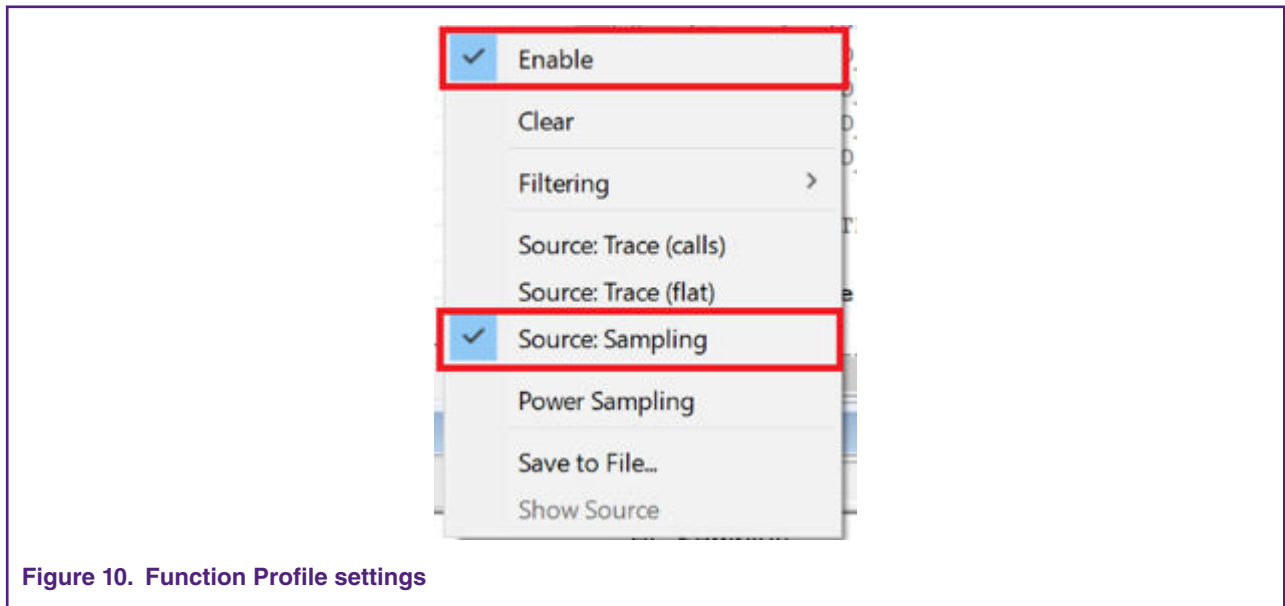

Figure 10. Function Profile settings
- 3. Right click **Function** and select **source:Sampling**, as shown in Figure 10. on page 12.